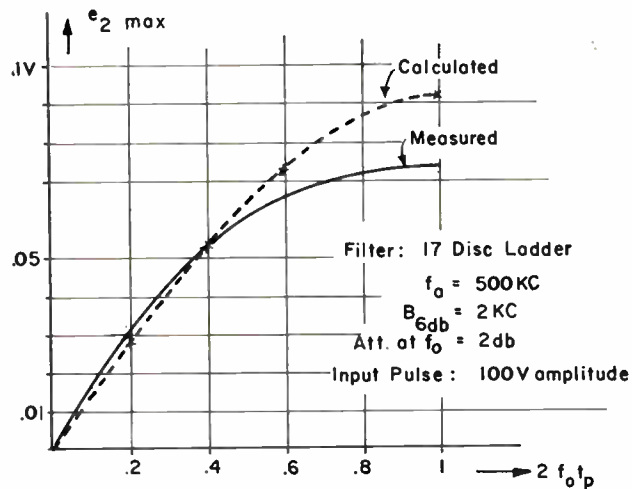

Fig. 11 (right): The pulse response of a ladder filter.
Fig. 11 compares the pulse response measured on a narrow band (2 kc) ladder filter to that calculated from Eq. (11). The correspondence, especially for narrow pulses, is close. For pulse widths $t_p \gg 1/f_0$, the pulse response becomes an impulse response which, in agreement with Eq. (12), is directly proportional to t_p .